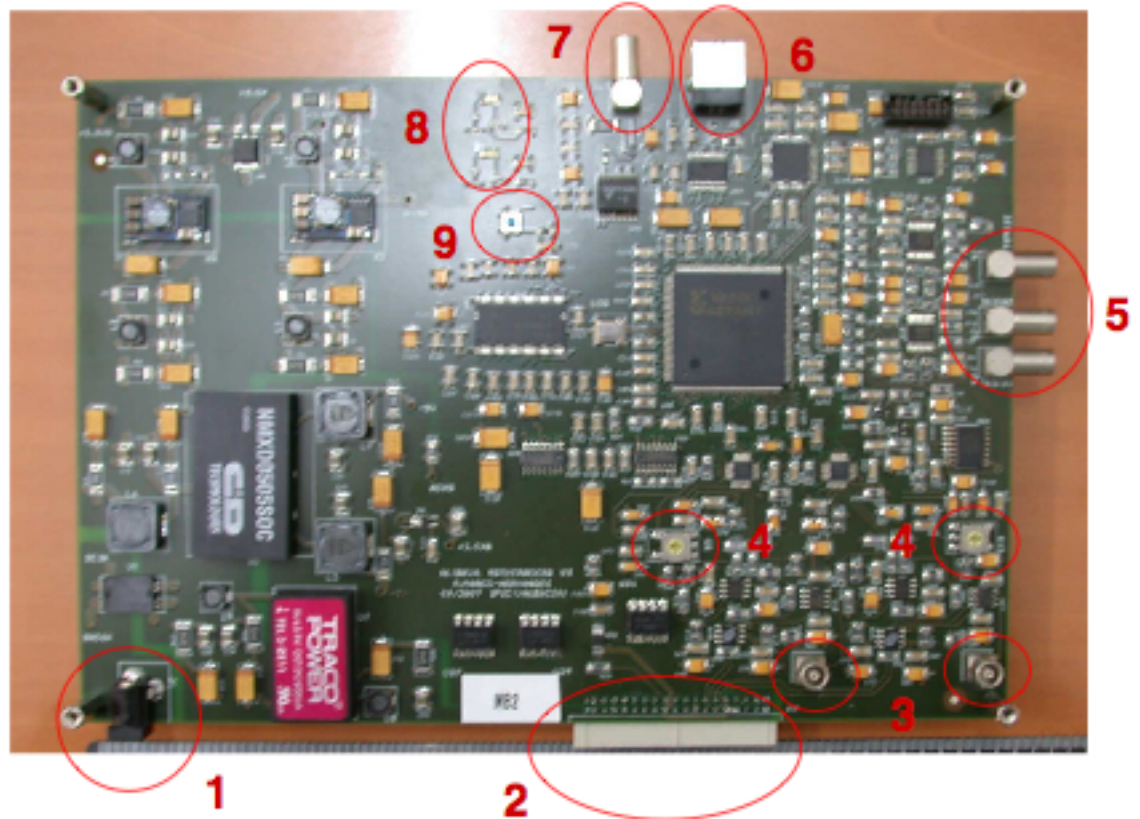

Figure B-2. Connectors, switches and LEDs of the ALIBAVA motherboard.
1. Connect the daughter board to the mother board (item 2 of Figure B-2) by means of the flat cable (the IDC connectors have a defined position both in the daughter board and the mother board).
2. Power on the system by means of connecting the AC/DC adapter to the motherboard power connector (item 1 of Figure B-2). The red and the green LEDs of the motherboard (item 8 of Figure B-2) are switched on.
3. Connect the USB cable to a USB port on the computer where the software is installed and to the USB connector of the motherboard (item 6 of Figure B-2).
4. Push the reset button (item 9 of Figure B-2) of the motherboard to initialize the system.
5. Launch the software following the software documentation. Now the hardware has been synchronized with the software and the red LED of the motherboard will be switched off (item 8 of Figure B-2).
In order to take laser acquisitions the motherboard has a trigger output which uses the LEMO connector next to the USB connector (item 7 of Figure B-2) for exciting a pulse generator which will drive the laser. The name of this output (TRIG OUT) is printed on the motherboard next to the corresponding connector.
For this setup the motherboard has three trigger inputs which use three LEMO connectors (item 5 of Figure B-2). The name of each trigger input is printed on the motherboard next to the corresponding connector.
There are two analogue outputs at the motherboard in order to probe the analogue output signal of each Beetle chip before they are digitized. These output signals use the two vertical LEMO connectors of the motherboard (item 3 of the Figure B-2). These outputs must be connected to the 50Ω input of an oscilloscope. A 50Ω coaxial cable must be used for these connections.
There are two rotary switches of three positions on the motherboard (item 4 of Figure B-2) to modify the ADC input range for each Beetle chip. The position 2 corresponds to an input range of $\pm 512mV$ (with a resolution of 1 mV). The position 3 corresponds to an input range of 1024mV (with a resolution of 1 mV) only for positive signals. The position 1 corresponds to a input range of -1024mV (with a resolution of 1 mV) only for negative signals.